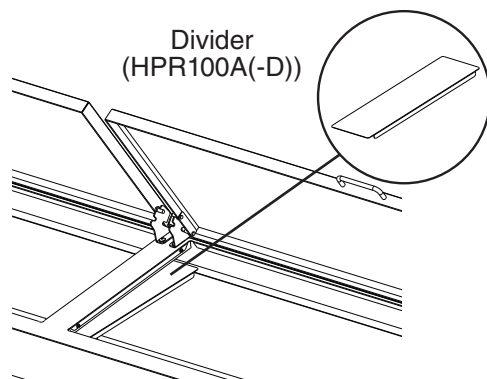

Fig. 5
- 3) Place rail dividers (sold separately) and empty pans (sold separately) on the rail. On the HPR100A(-D), place the divider included with the unit as shown in Fig. 5. When operating the rail, the entire rail must be covered by rail dividers and pans. Otherwise, the rail will not cool properly. Use pans with a depth of up to 6" (15 cm). Do not use damaged rail dividers or pans.